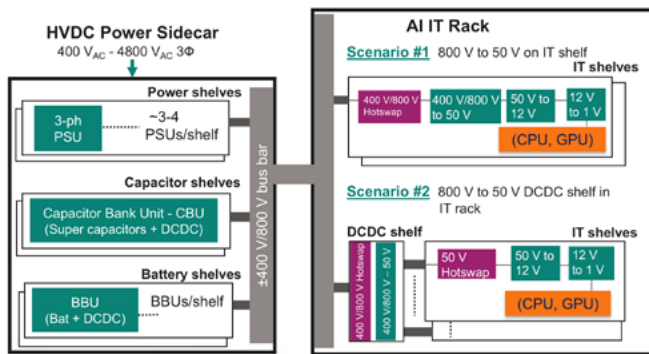

Figure 1: Next generation AI server rack architecture.
The rise of artificial intelligence (AI) has resulted in a significant increase in power demand in data centers, with AI server racks power levels expected to reach MW range. Accordingly, the server rack architecture will evolve to separated IT rack and sidecar power rack, as shown in Figure 1.